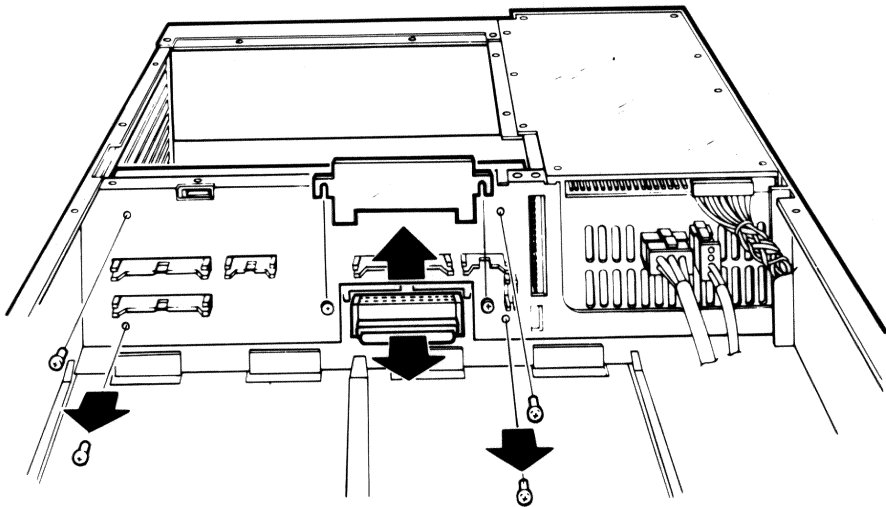

Figure 6-3 Trap Door Removal
2. Remove the two screws that hold the trap door to the signal distribution panel, and remove the door. (Figure 6-3)